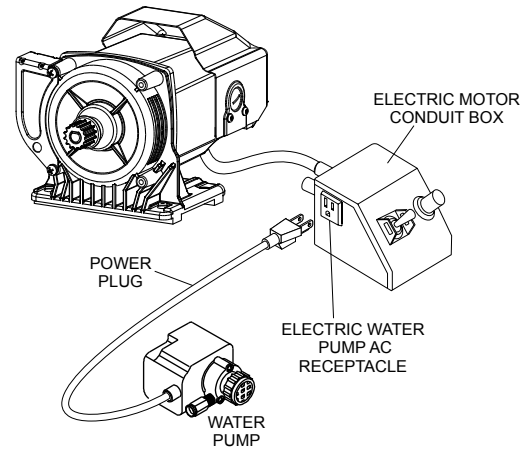

Figure 7. Water Pump Power Connection
6. Insert the water pump power plug into the outlet receptacle on the electric motor conduit box as shown in Figure 7.